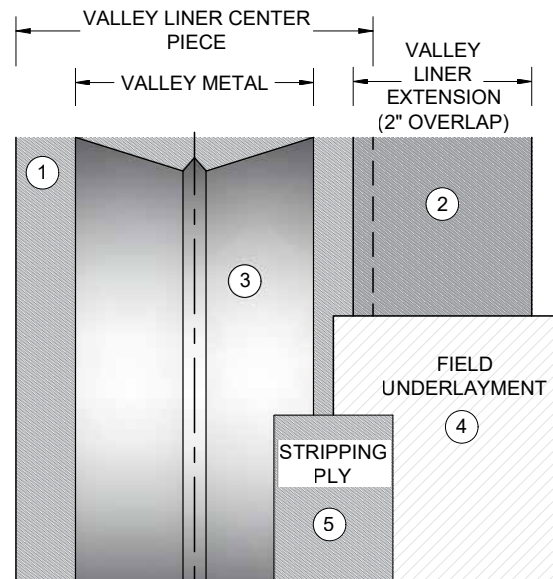

Figure 12 - Construction of Open Metal Valley Option 1
5. Install a 12"-wide (305 mm) stripping ply of Arctic Seal: 4" (102 mm) over the edge of valley metal (covering fasteners used to secure the metal), 4" (102 mm) over the exposed valley liner, and 4" (102 mm) onto the field underlayment. Employ a silicone hand roller to ensure full adhesion. (See Figure 12)